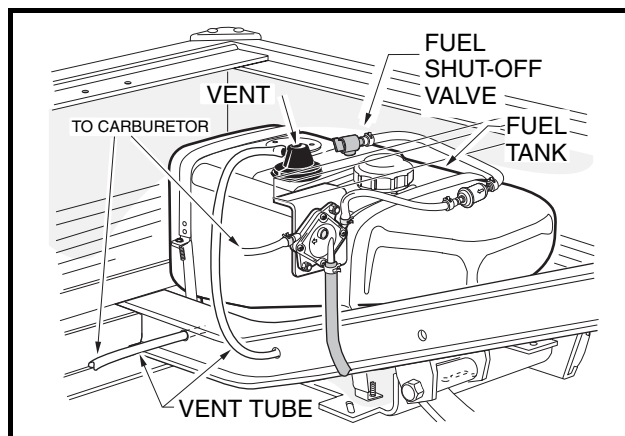

Figure 24 Fuel Tank – HUV4213
- If the vehicle has an all-weather enclosure installed, be sure the fuel tank is properly vented as shown (Figure 24, Page 34).